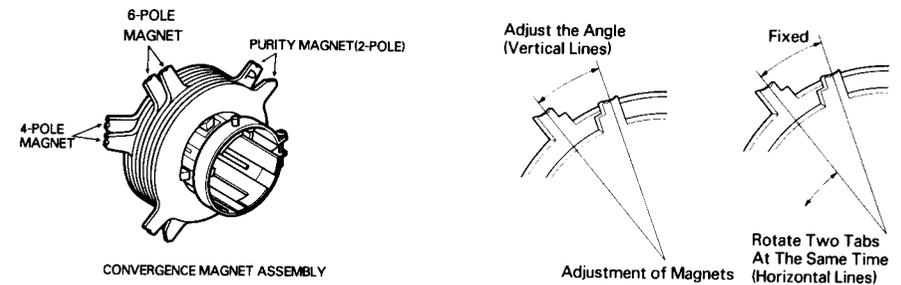

Figure 17
- Rotate and spread the tabs of the purity magnet (See figure 17) around the neck of the picture tube until the green belt is in the center of the screen. At the same time, center the raster vertically.
3. Adjust two tabs of the 4-pole magnets to change the angle between them (See figure 17) and superimpose the red and blue vertical lines in the center area of the picture screen. (See figure 18)